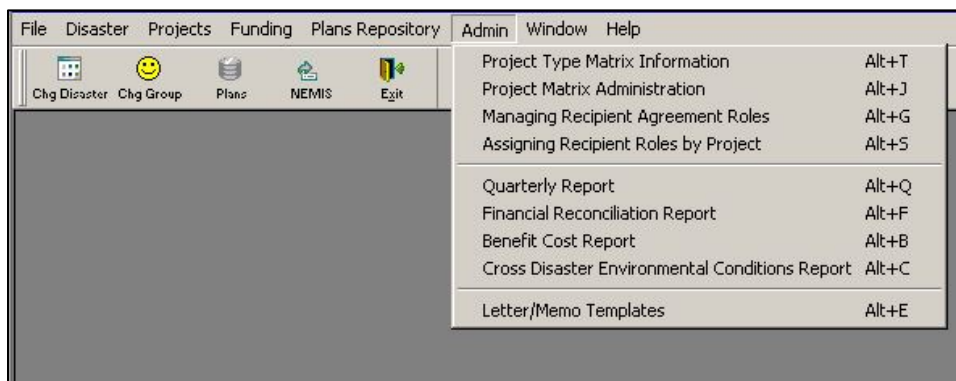

Figure 14-15: Mitigation >Admin >Benefit Cost Report
- a. On the MITIGATION menu, click on Admin > Benefit Cost Report (Figure 14-15).